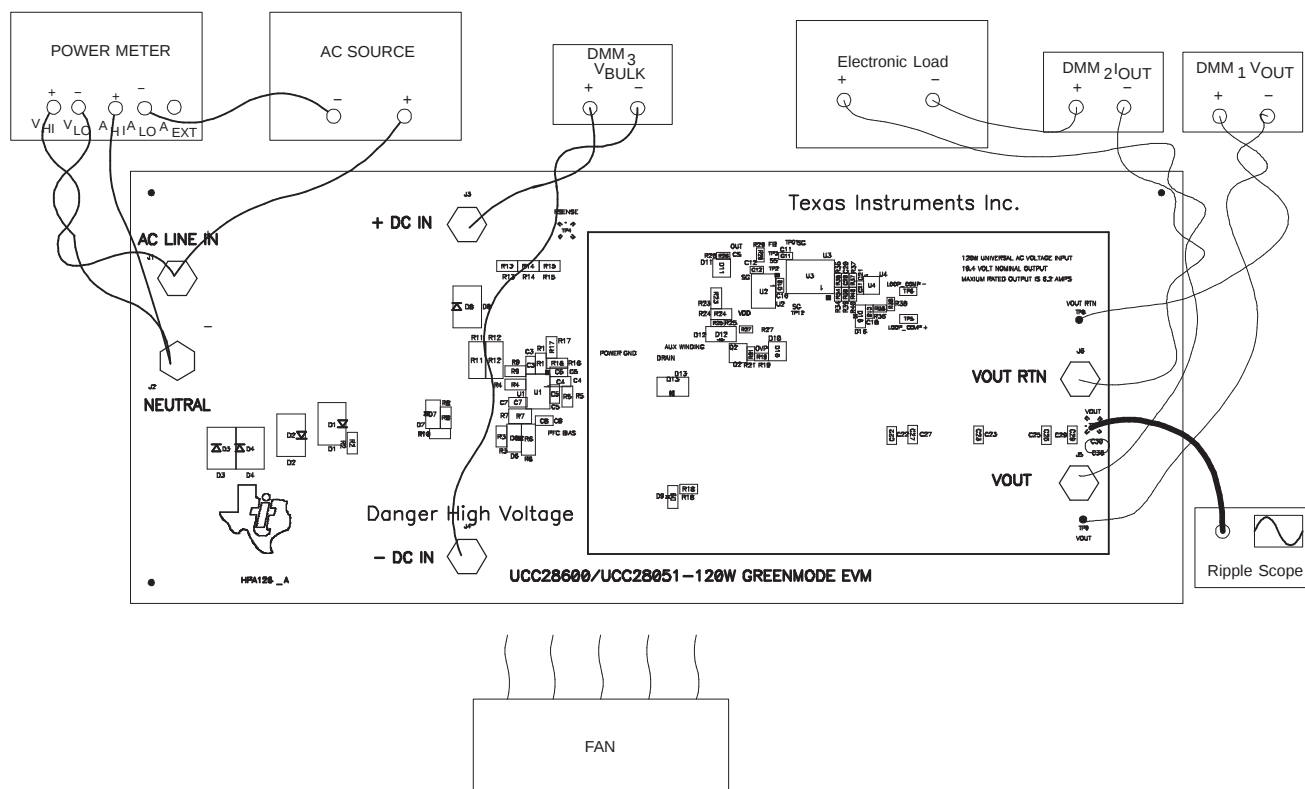
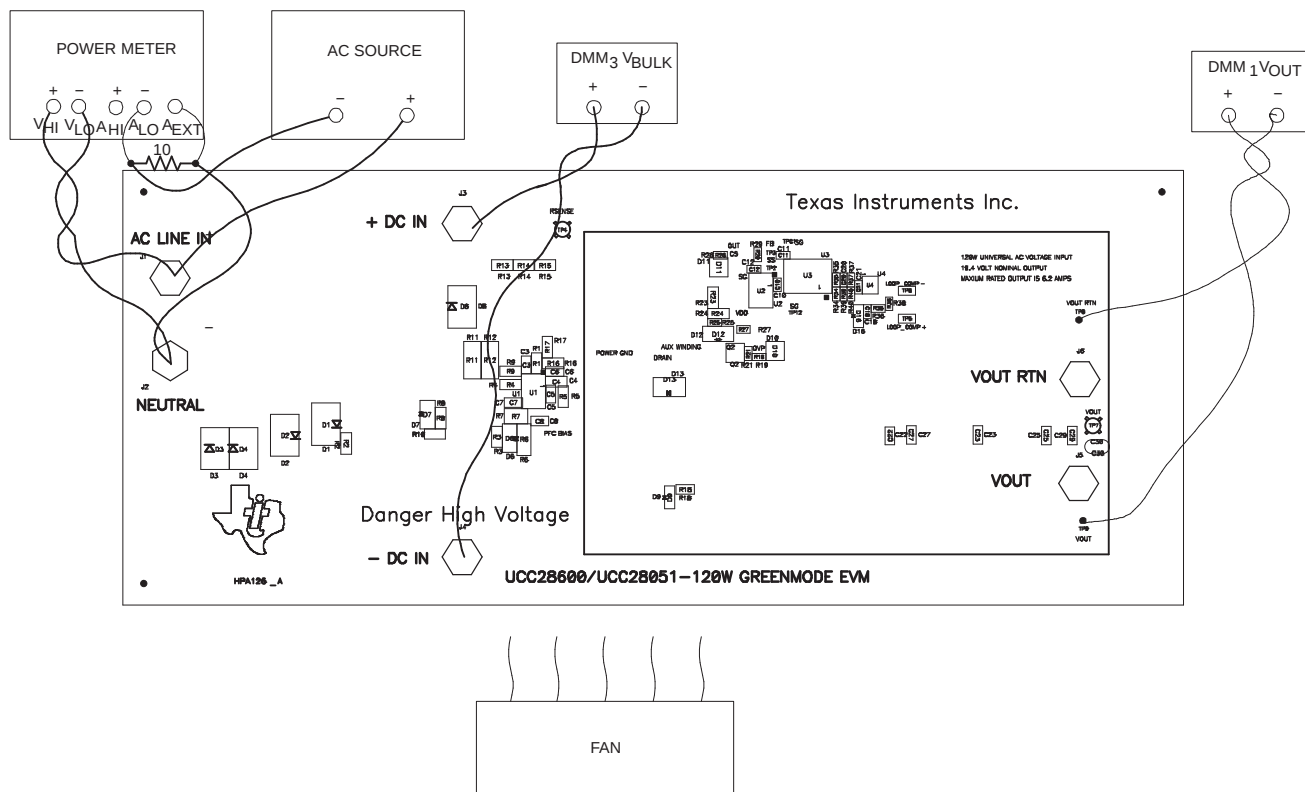

Figure 3. Recommended HPA126 EVM Test Configuration for Operation with a Load.
Figure 4. Equipment Set Up for HPA126 Evaluation During No-Load.
Figure 3 shows the basic test set up recommended to evaluate the UCC28600EVM with a load. Figure 4 shows the equipment set up when measuring the input power consumption when the EVM is in standby mode. Note the addition of the 10- Ω shunt in Figure 4. The power analyzer should also be set for long averaging in order to include several cycles of operation and an appropriate current scale factor for using the external shunt must be used.
The power analyzer shall be capable of measuring low input current, typically less than 10 mA, and a long averaging mode if low power standby mode input power measurements are to be taken. An example of such an analyzer is the Voltech PM100 Single Phase Power Analyzer. To measure the intermittent bursts of current and power drawn from the line during no-load operation, an external 10- Ω shunt, with a current scale factor of 10 V/A, was used at a high sample rate over an extended period of time in order to display the averaged results (refer to Figure 4).
- a. Prior to connecting the ac input source, it is advisable to limit the source current to 5 A maximum. Make sure the ac source is initially set between 85 V_{RMS} and 265 V_{RMS} prior to turning on. Connect the ac source to the AC LINE IN and NEUTRAL terminals of the EVM as shown in Figure 3.
- b. Connect the voltage terminals of the power analyzer across AC LINE IN and NEUTRAL as shown in Figures 3 and 4.
- c. Connect the current meter terminals of the power analyzer in series with the NEUTRAL line as shown in Figure 3.
- a. If no-load input power measurements are to be made, set the power analyzer to long averaging and external shunt mode. Insert a shunt, such as a 10-Ω resistor as shown in Figure 4, in series with the NEUTRAL terminal of the EVM. Set the appropriate current scale on the power analyzer.
- d. Connect DMM₁ across VOUT and VOUT RTN as shown in Figures 3 and 4.
- e. For operation with a load, connect the positive terminal of the LOAD to the VOUT terminal of the EVM and the negative terminal of the LOAD to the VOUT RTN terminal of the EVM, as shown in Figure 3. Connect DMM₂ in series with the negative terminal as shown in Figure 3. Set the LOAD to constant current mode to sink 0 A.
- f. Connect DMM₃ across +DC IN and – DC IN as shown in Figures 3 and 4.